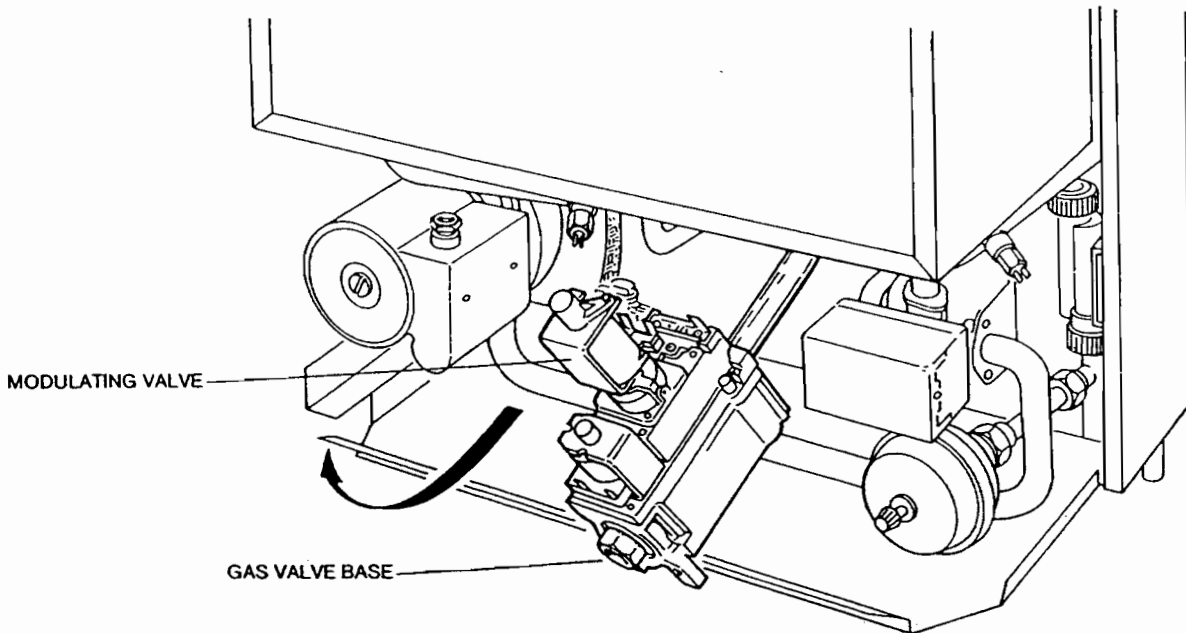

Fig. 24 GAS VALVE REMOVAL
7. GAS CONTROL VALVE (See Fig. 24)
- Lift the gas valve assembly clear of the gas service cock. Pull the gas control forwards so that the assembly passes between the horizontal flow pipe; 3-way valve and C.H. flow switch (See Fig: 24).